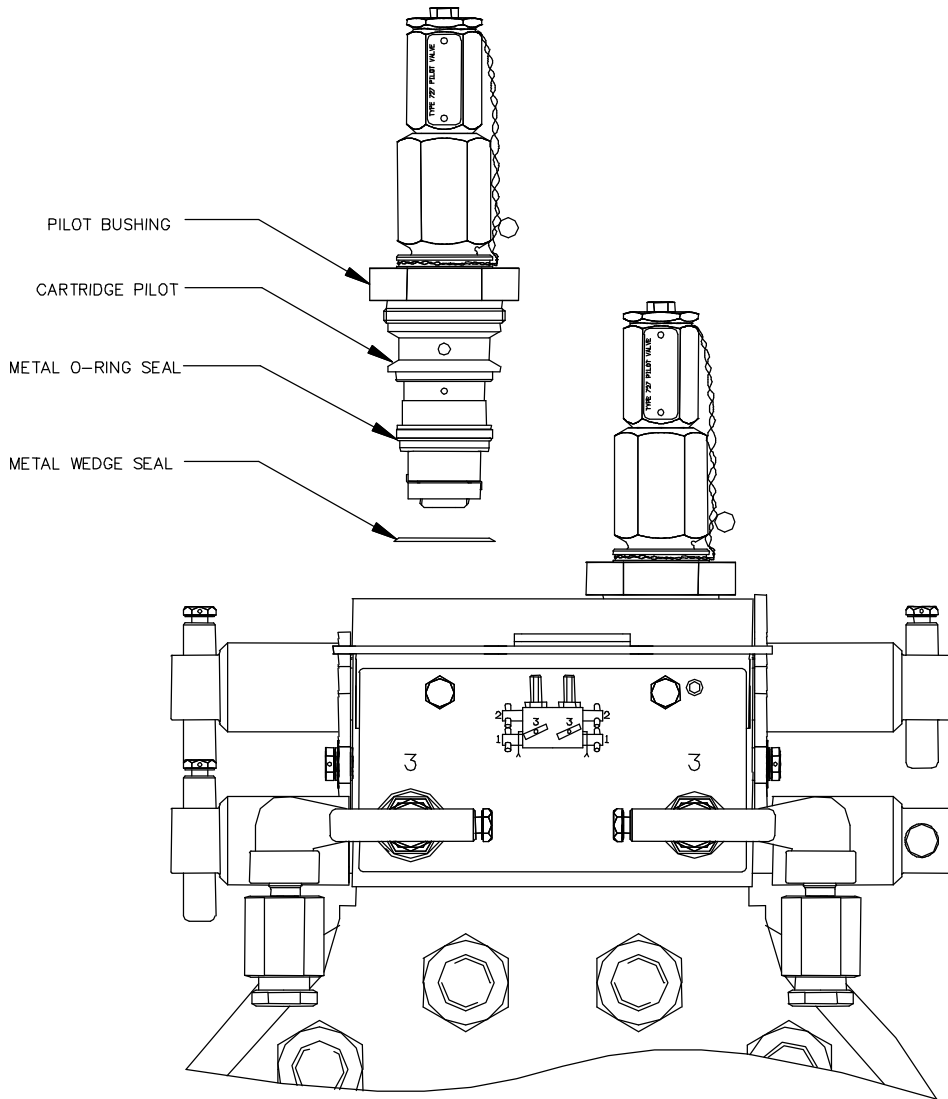

FIGURE 3
6.0 PILOT REPLACEMENT (See Figure 3)
6.2 Pilot Installation (See Figure 3)